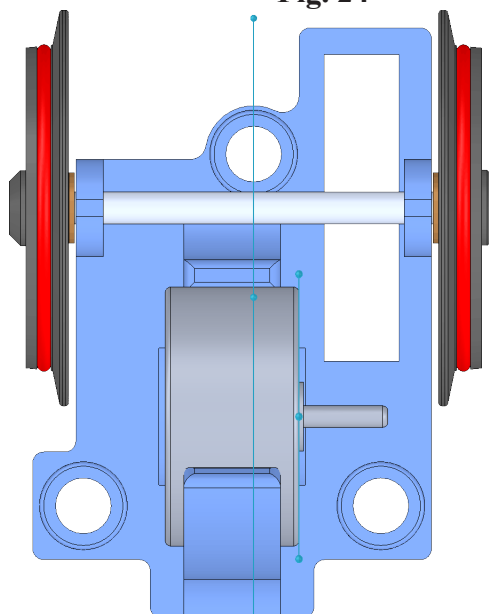

Fig. 25
Step 6. Click **Distance**  in Mate pop-up, Fig. 24. Set distance 4.2. Click **Flip Dimension**  until **Motor** is centered between on the motor mount, Fig. 25. Click **Add/Finish Mate**  to add Distance mate.